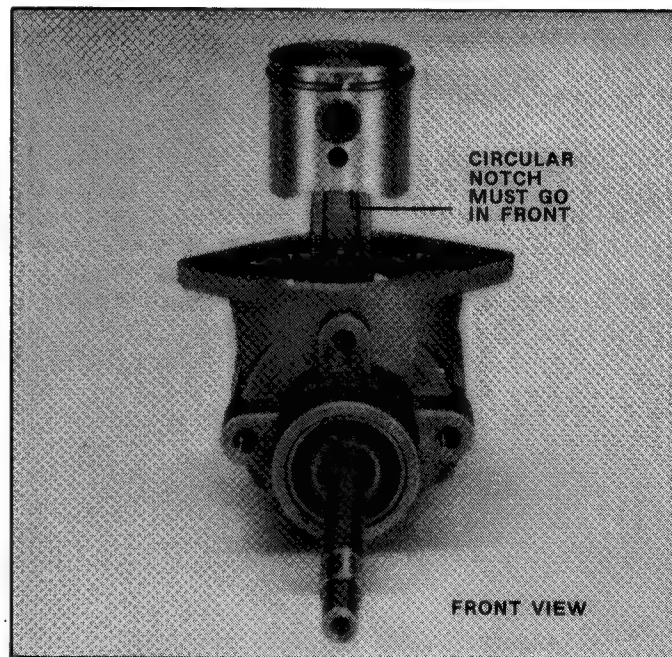

**FIGURE 9.5**
9.5 Remove the two screws from the crank case housing and separate the crank case assembly from the cylinder block by pulling in a straight line direction. Avoid a twisting motion; this could cause the ends of the piston ring to scar the cylinder wall. For re-assembly tighten the crank case to cylinder screws to 120 inch pounds torque. See Figure 9.5.